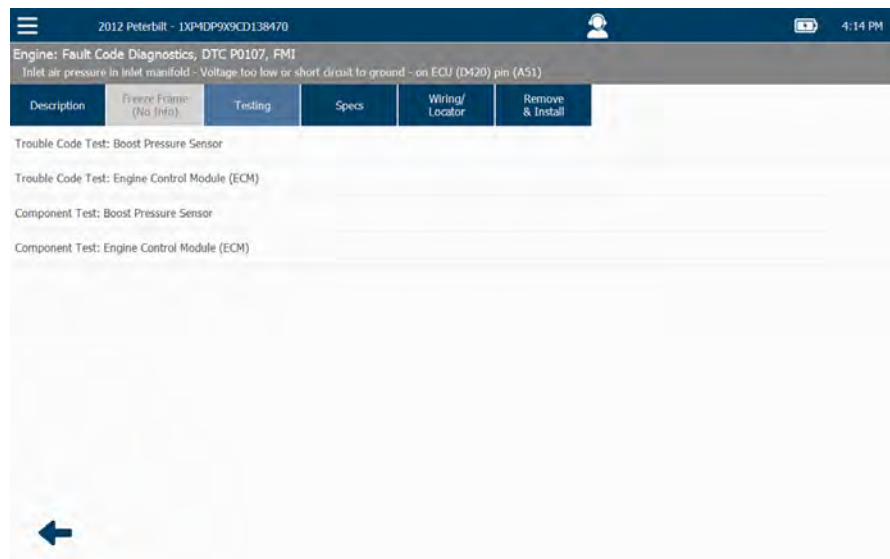

Figure 10.7 Testing Tab Activated
- Touch the **Back Arrow** to go back to the list of tests (Figure 10.7).